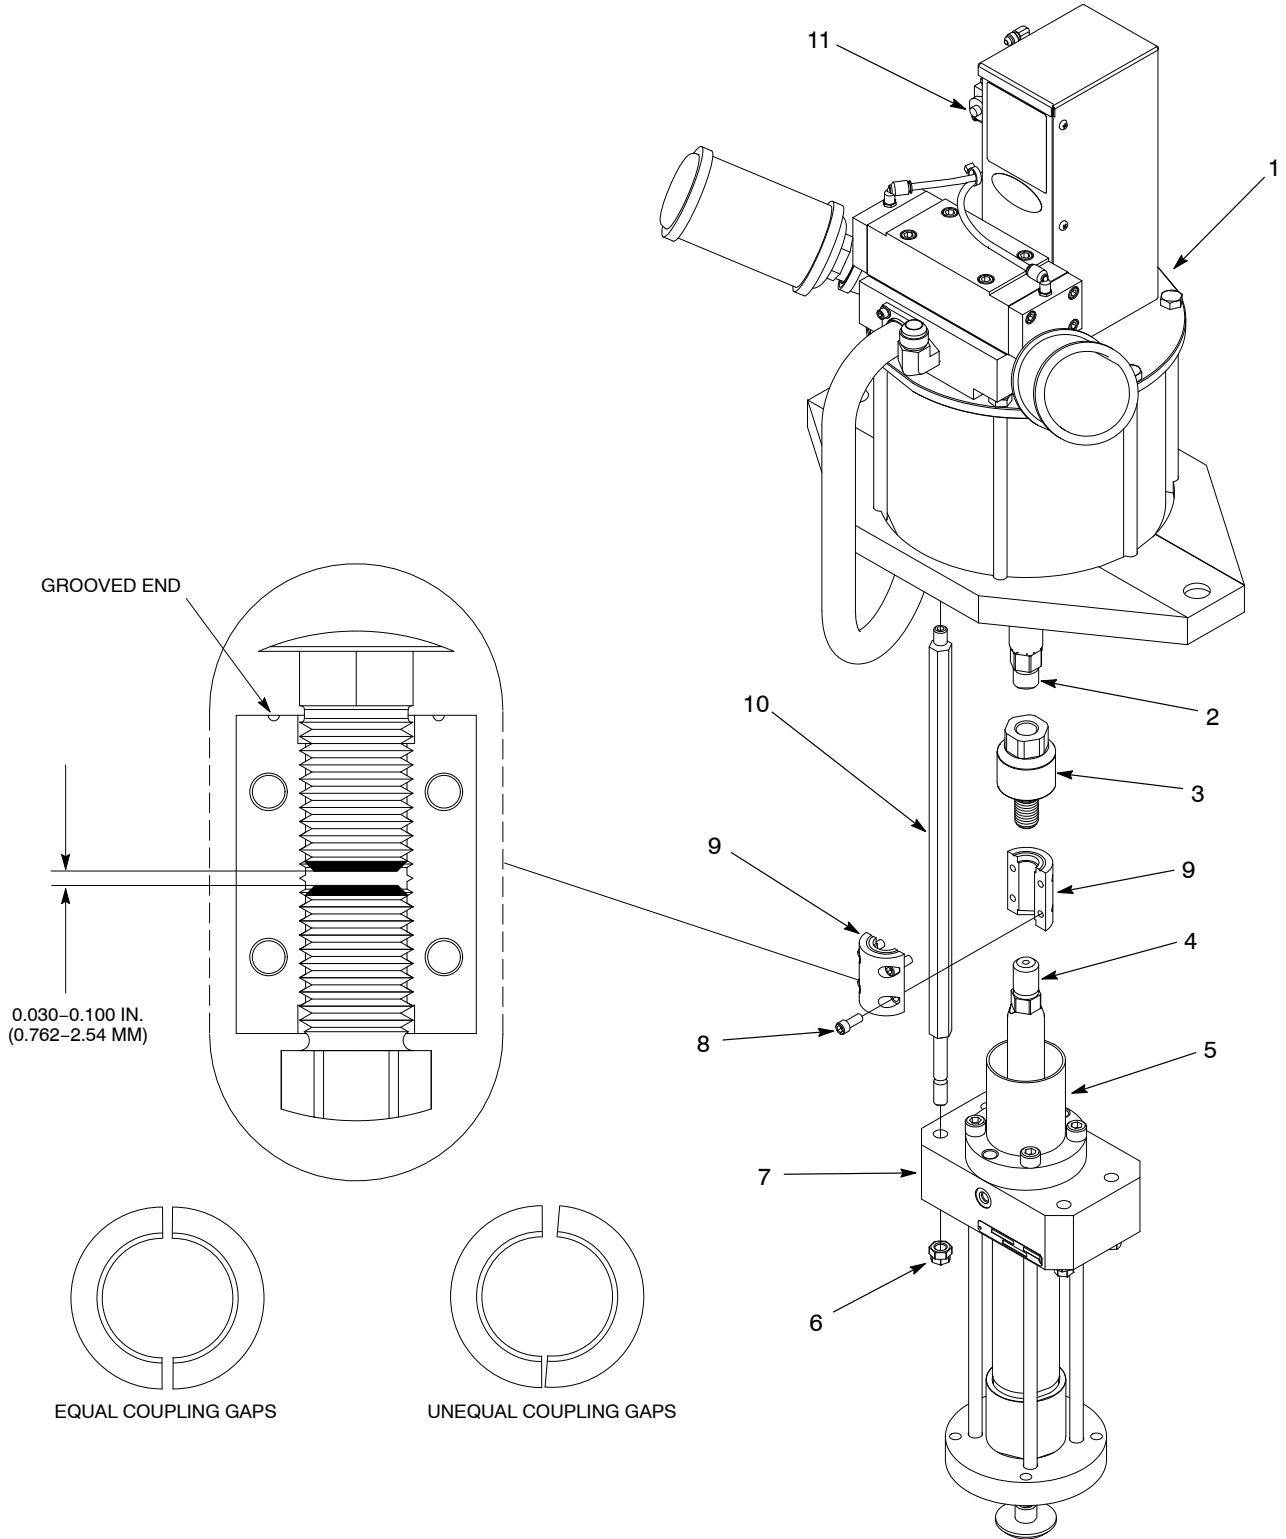

Figure 13 Assembling the Pump
1. See Figure 13. Apply threadlock adhesive to the male threads of the air motor shaft (2). Install the floating coupling shaft (3) onto the air motor shaft and tighten to 200–220 ft-lb (272–298 N•m).
2. Install the connecting rods (10) to the air motor (1) and tighten to 60–65 ft-lb (81.5–88 N•m).
3. Install the hydraulic section (7) onto the connecting rods (10) using the nuts (6). Tighten the nuts to 60–65 ft-lb (81.5–88 N•m).
4. Install the solvent chamber (5) onto the hydraulic section (7).